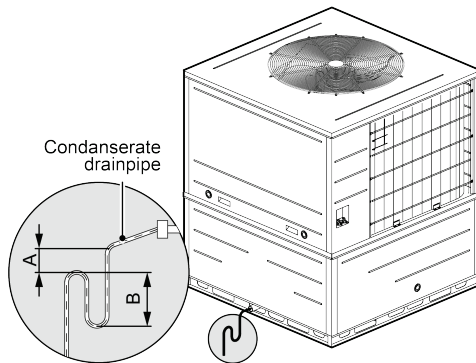

Fig.11
- (1) Condensate drain side is pitched lower than the opposite side. (see Fig. 11)
- (2) When shipped out from factory, both the condensate outlets are blocked by rubber plug. So before installation, please take the rubber plug out.
- (3) Condensate removal is performed by attaching a PVC pipe to the drain pan and terminated in accordance with local or state Plumbing/HVAC codes.
- (4) The condensate pipe shall be installed with an inclining angel of 5~10°, so as to facilitate the drainage of condensate.
- (5) As the inside of the unit is in the negative pressure status, it is required to set up a backwater elbow. The requirements is: $A=B \geq P/10+20(\text{mm})$
- (6) P is the absolute pressure inside the unit. The unit of the pressure is Pa.
- (7) After the electrical installation is completed, carry out the testing of the drainage system.
- (8) It is not allowed to connect the condensate drain pipe into waste pipe or